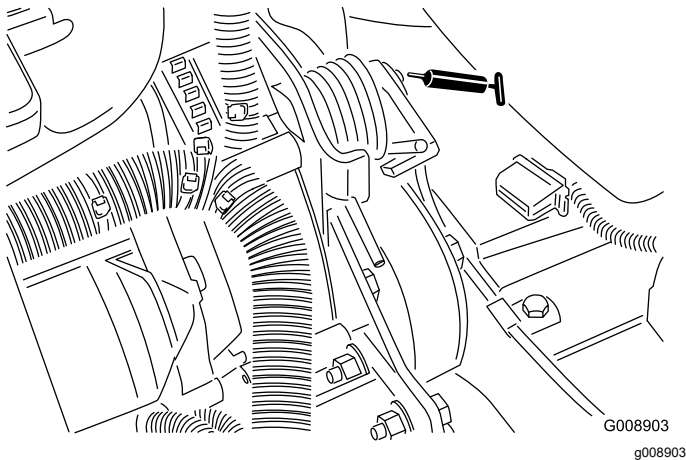

Figure 47
- Belt tension pivot (Figure 47)